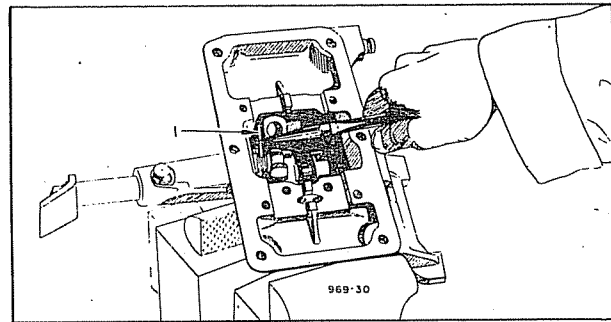

Fig. 10—Removing Gearshift Lever Lock Pin.
- (7) Remove the gearshift lever lock pin spring with a pair of long nose pliers. (Figure 10).